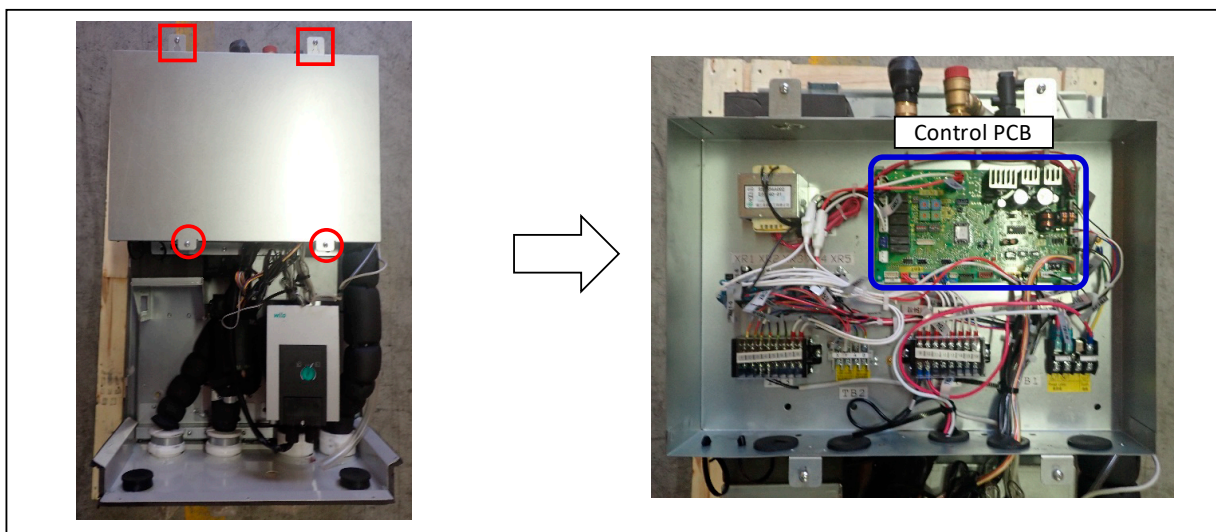

Fig5. Removing control lid
- ① Remove 2 lid fixing screws. (○ mark, Fig.5) Loosen 2 lid fixing screws. (□ mark, Fig.5)
- ② Remove control lid.